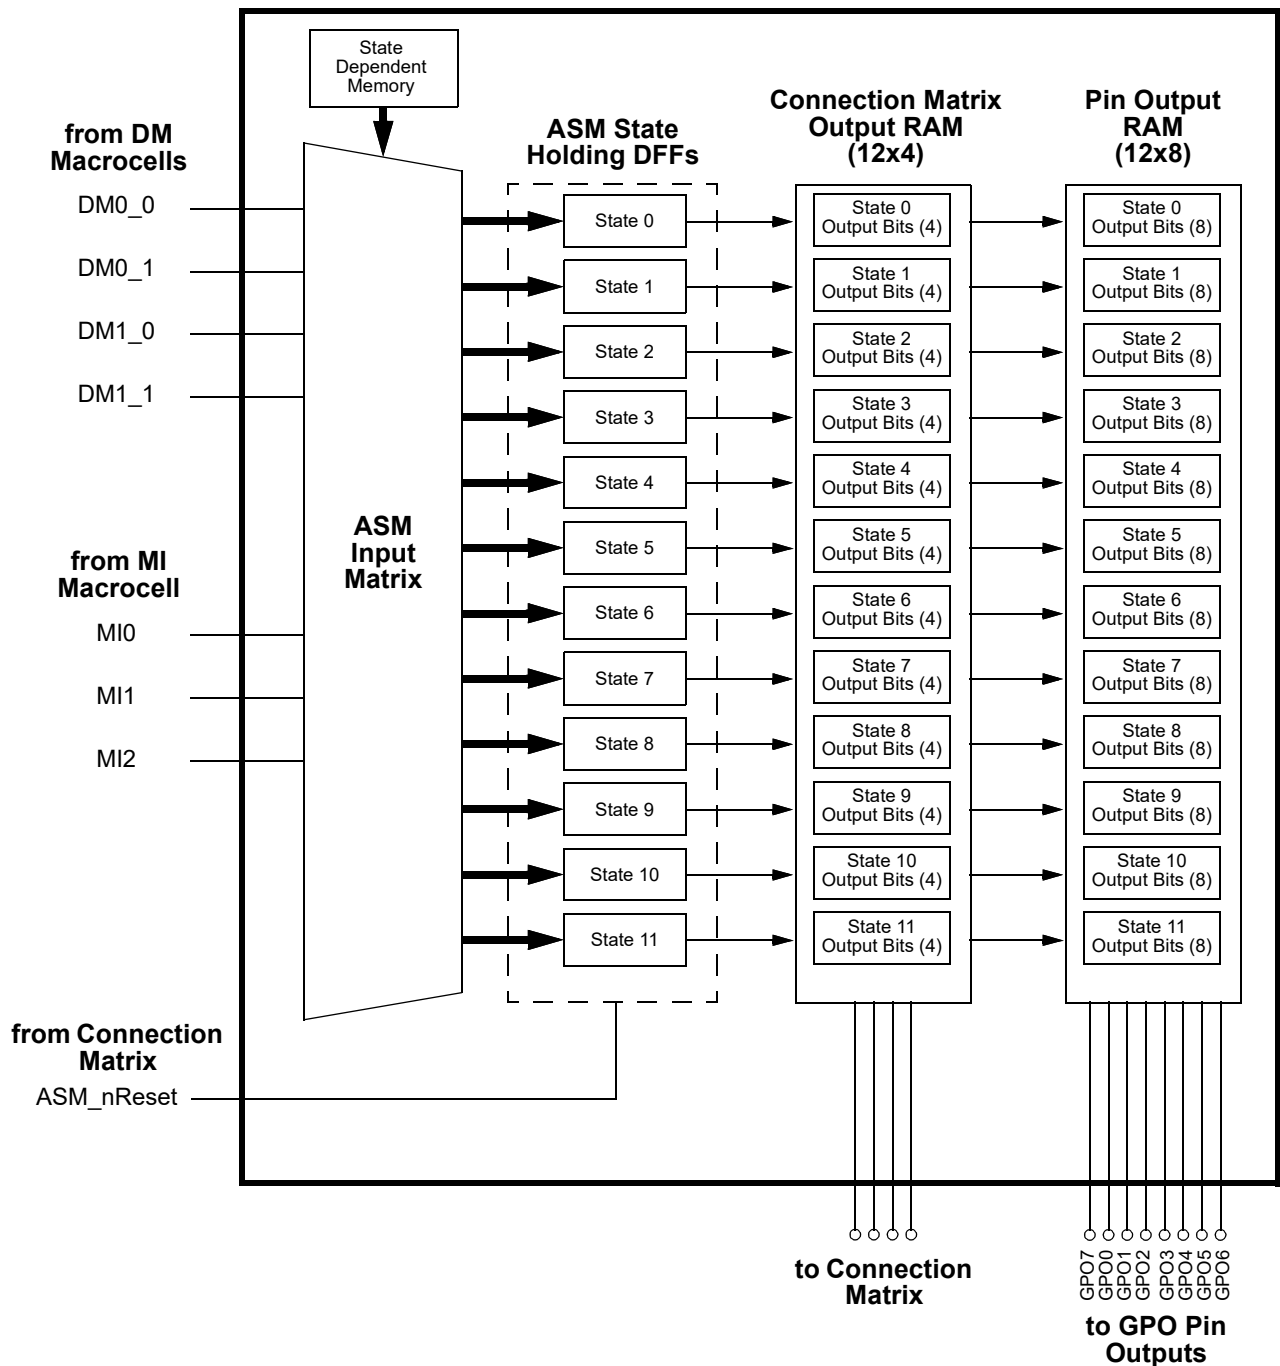

Figure 108: 12 State ASM Macrocell
The ASM macrocell has a total of 8 input signal lines, as shown in Figure 108, which come from a combination of three Matrix Interface (MI) macrocell outputs and DM macrocell outputs. Of these 8 inputs, 3 are user selectable inputs coming from the three Matrix Interface (MI) macrocells (one per macrocell) to the ASM macrocell. There are also 4 inputs that come from the DMx\_x macrocells (one per macrocell). There is 1 ASM\_nReset input that is for driving a state transition in the ASM macrocell to a user defined Initial/Reset state.
The GPAK Designer development tools support user designs for the ASM macrocell at both the physical level and logic level. Figure 108 is a representation of the user design at the logical level, and Figure 108 shows the physical resources inside the various macrocells in the ASM Subsystem. To best utilize this subsystem, the user must develop a logical representation of their desired state machine, as well as a physical mapping of the input and outputs required for the desired functionality.
The ASM macrocell has a total of 8 input signal lines, as shown in Figure 108, which come from a combination of Connection Matrix outputs and DM macrocell outputs.